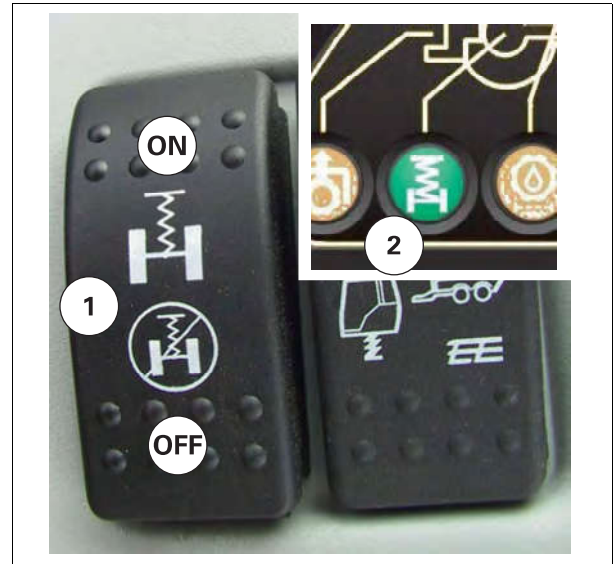

Fig. 2.
The axle suspension can be activated (ON in operation) and deactivated (OFF not in operation) using the switch (1) located on the right-hand console inside the cab fig. 2.